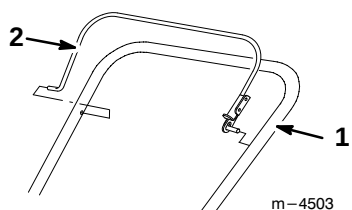
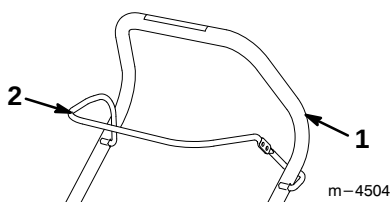

Figure 7
Figure 8
2. Install the control bar on the upper handle as shown in Figure 7 (models 38428 and 38429) or Figure 8 (models 38441 and 38442).